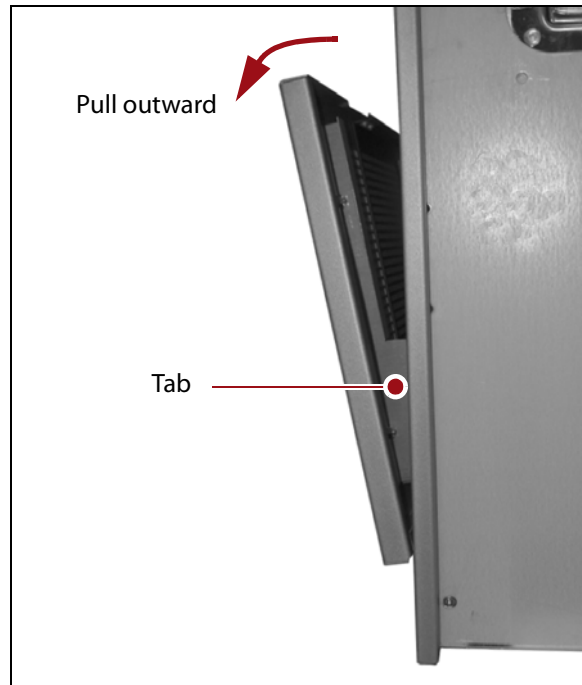

Figure 287 Rotate the fan cover panel outward.
5. Place the new air filter against the inside of the fan cover so that it fits between the tabs (shown in Figure 287 on page 465).